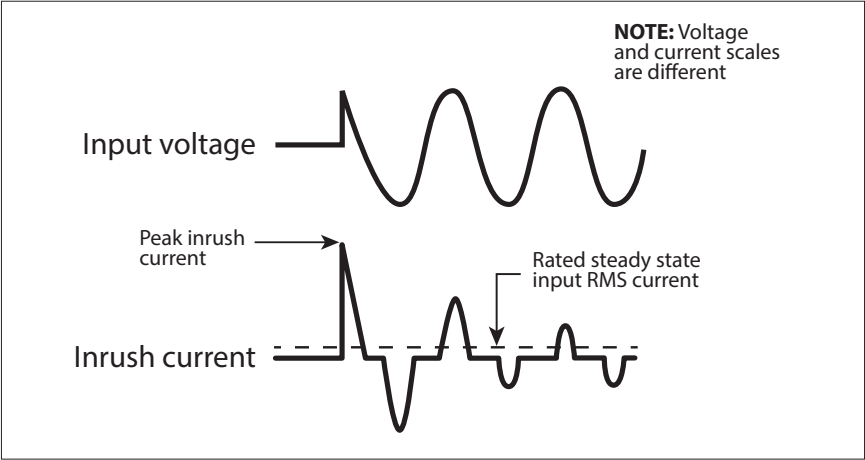

Fig 4.1: Inrush Current in an SMPS
- **AC to DC Switched Mode Power Supplies (SMPS):** This type of power supply is used as stand-alone power supply or as front end in all electronic devices powered from Utility/Grid e.g. in audio/video/ computing devices and battery chargers (Please see Section 4 for more details on SMPS). When this power supply is switched ON, its internal input side capacitors start charging resulting in very high surge of Inrush Current for a few milliseconds (Please see Fig 4.1). This surge of inrush current/power may reach up to 15 times the Continuous Maximum Running Power Rating. The surge of inrush current/power will, however, be limited by the Surge Power Rating of the AC source.
Switch Mode Power Supplies (SMPS) are extensively used to convert the incoming AC power into various voltages like 3.3 V, 5 V, 12 V, 24 V, 48 V etc. that are used to power various devices and circuits used in electronic equipment like battery chargers, computers, audio and video devices, radios etc. SMPS use large capacitors in their input section for filtration. When the power supply is first turned on, there is a very large inrush current drawn by the power supply as the input capacitors are charged (The capacitors act almost like a short circuit at the instant the power is turned on). The inrush current at turn-on is several to tens of times larger than the rated RMS input current and lasts for a few milliseconds. An example of the input voltage versus input current waveforms is given in Fig. 4.1. It will be seen that the initial input current pulse just after turn-on is > 15 times larger than the steady state RMS current. The inrush dissipates in around 2 or 3 cycles i.e. in around 33 to 50 milliseconds for 60 Hz sine wave.